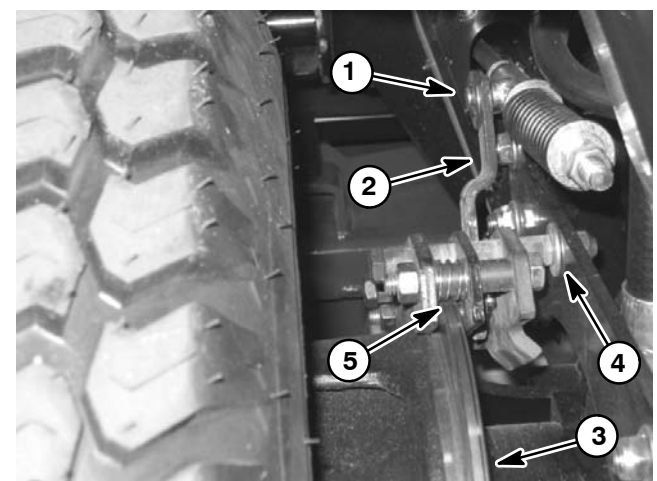

Figure 7
3. Apply Loctite #271 (or equivalent) to threads of brake mounting screws. Secure parking brake to brake support with two (2) lock nuts. Torque lock nuts from **35 to 40 ft-lb (48 to 54 N-m)**.
4. Place brake support (with parking brake assembly attached) to wheel hub disc and frame making sure that disc is between the two (2) stators (brake pads) in the brake assembly.
5. Place four (4) cap screws and flange nuts in mounting holes of brake support and frame but do not fully tighten.
6. Adjust position of brake support so that the clearance between the wheel hub disc and both springs in the parking brake (Fig. 7) is from **0.030" to 0.070" (0.8 to 1.7 mm)**. When clearance is correct, fully tighten fasteners.
8. Secure wheel to machine with five (5) lug nuts.
10. If wheel hub was removed, apply parking brake and torque lock nut (item 6) from **300 to 400 ft-lb (407 to 542 N-m)**. Release parking brake.